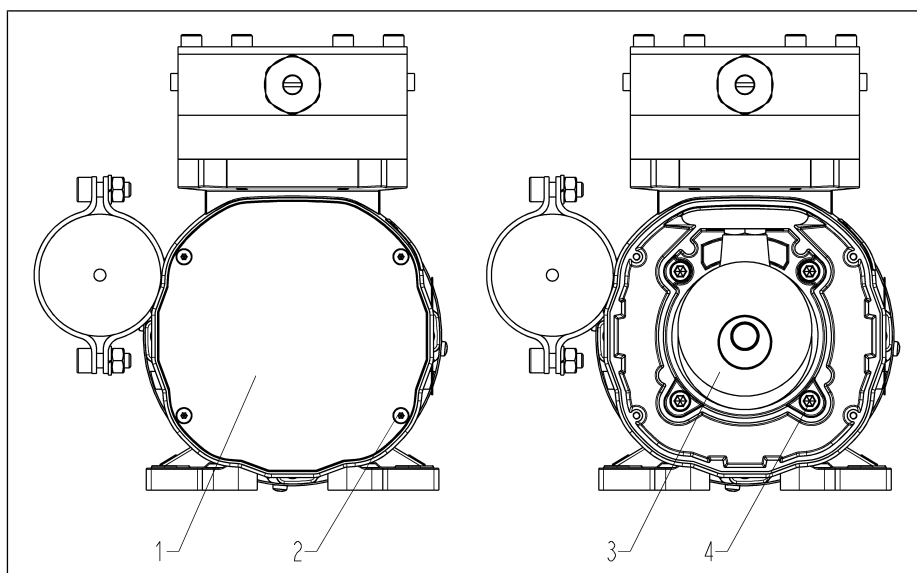

Fig.10 Removing the housing cover
1. Loosen the four Allen screws (Fig. 10/2) of the housing cover (Fig. 10/1) and remove the screws.
2. Remove the housing cover (Fig. 10/1).
2. Screw in the screws (4) and tighten them lightly crosswise.
4. Tighten the screws (4) crosswise (tightening torque: 6 Nm).
5. Position the housing cover (Fig. 10/1) and screw down with the four Allen screws (Fig. 10/2) (tightening torque: 15 Ncm).